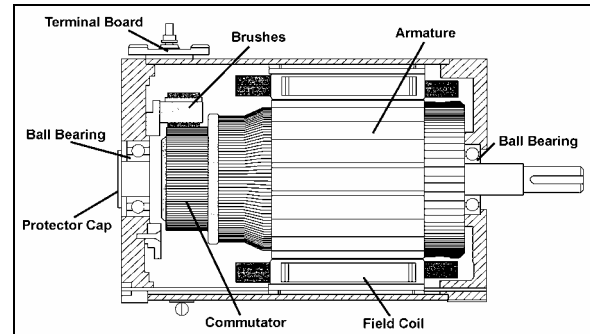

FIGURE 30: CONDENSER FAN MOTOR 22234
Two fan motors (Fig. 30), 28.5 V - (0.6 HP - 0.42 kW) and cages are installed in the condenser compartment on R.H. side of vehicle in order to ventilate the condenser coil. They are mounted on a support, fastened to the floor. The fans pull outside air through the condenser coil and discharge it through an opening at bottom of compartment. When temperature drops inside condenser, the pressure in the refrigerant line also drops and it is, therefore, no longer required to cool condenser. Consequently, when pressure drops to 130 psi, the motors will run at low speed and if the pressure continues to drop to 90 psi, a pressure switch stops the motors so that fans do not operate needlessly. When pressure rises to 120 psi, the pressure switch reactivates the
2. Unscrew the flange retaining screws on the shaft end side (opposite to the commutator end frame), and separate flange from frame (Fig. 30).